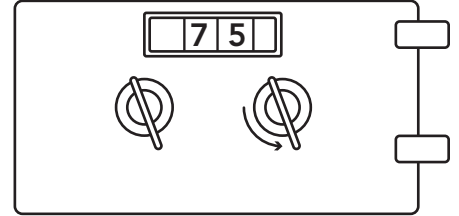

FIG. 3
3. Insert change key in change pivot in the rear of the lock and turn CLOCKWISE until it stops. *It will turn about 1/16 of a turn. DO NOT FORCE. (Figure 3)